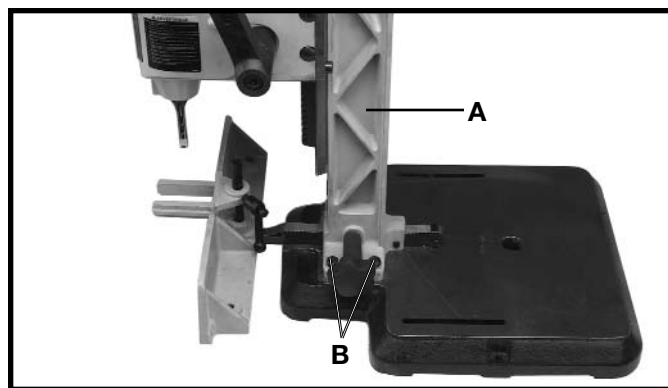

Fig. 31
The column (A) Fig. 31, can be rotated 180 degrees, as shown, if it is desired to cut workpieces off the table. To rotate the column, remove four screws, two of which are shown at (B), rotate column (A) 180 degrees and replace the four screws (B).